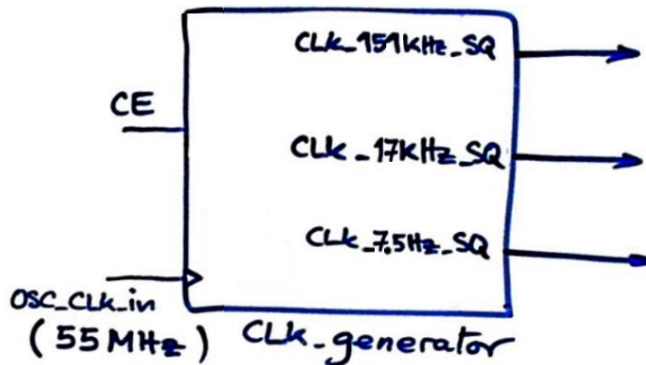

Fig. 3. *CLK_Generator*.
3. A dedicated processor application requires several square signals for clocking purposes. Invent the synchronous *CLK_generator* represented in Fig. 3 applying **plan C2**.